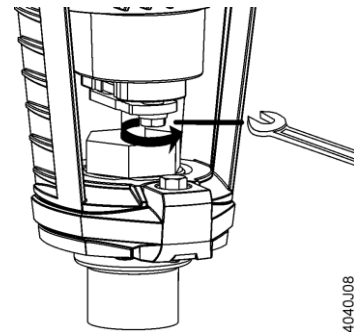

Figure 10.
8. Secure the stem connection plate by tightening the bolt, using a 10 mm wrench (or 4 mm hex wrench). See Figure 10.